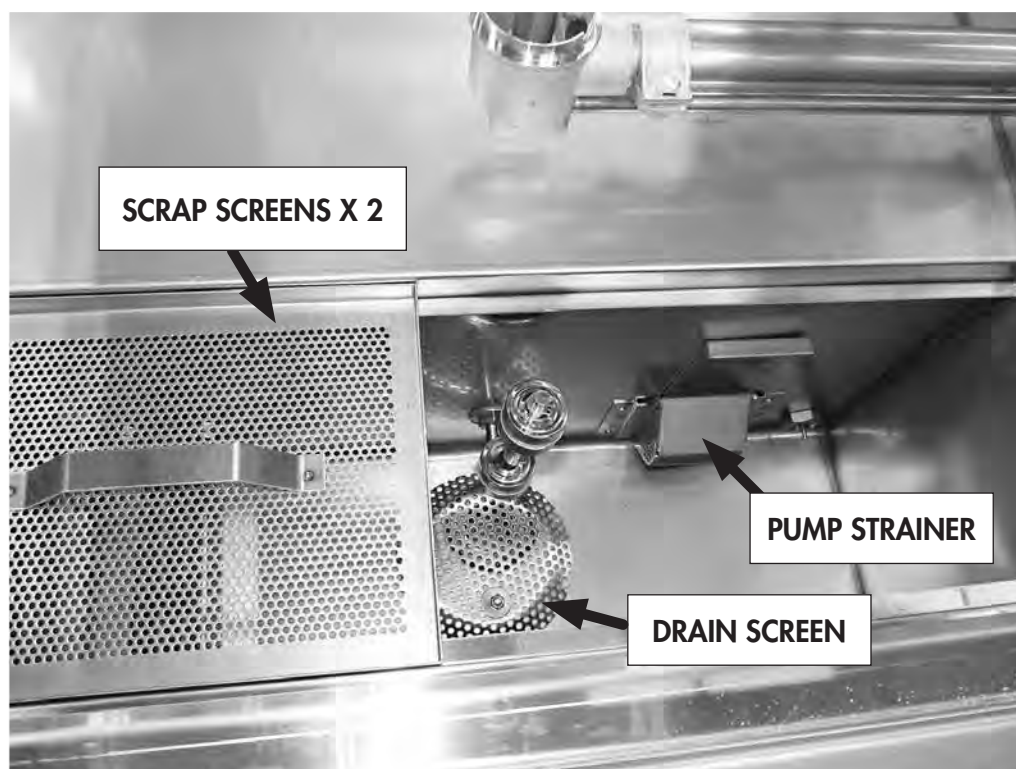

Fig. 31
6. Clean the round drain screen in the bottom of the wash tank. Clean the float switch. See Fig. 31 below.